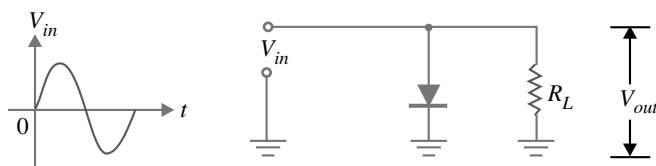

Fig. 16.41
**Solution.** The purpose of series resistance  $R$  is to protect the diode from damage. Let us explain this point. Suppose the series resistance  $R$  is not in the circuit. The circuit then becomes as shown in Fig. 16.41.